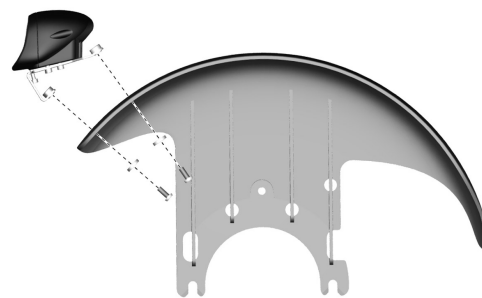

Figure 437. The front light. It is attached with two screws from underneath.
1. Assemble the front light using the two screws from underneath. See fig. 437.